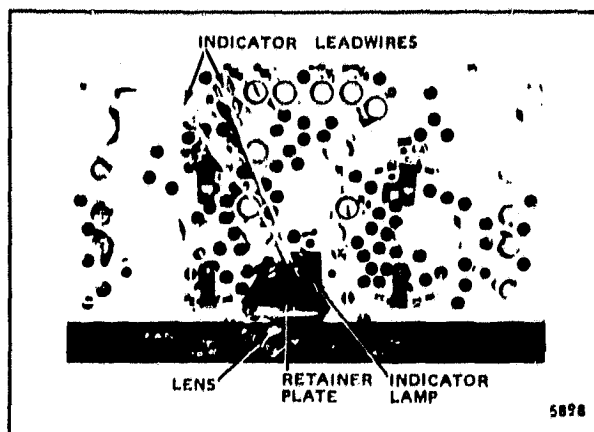

FIG. 12—INSTALLATION OF INDICATOR LIGHT ASSEMBLY.
6. Pivot lens and plate out of way as shown in Fig. 12. Insert bulb into recessed cavity, and route wires toward left-hand side of subbase.